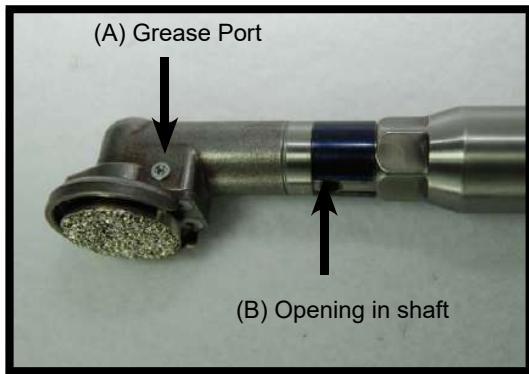

Fig. 13
ONLY NON-TOXIC (FOOD GRADE) SYNTHETIC GREASE SHOULD BE USED. Ideally utilize a high performance food grade grease with anti-corrosion and water resistance properties. The PowerFloat[®] has two grease fill ports, one located on the end of the grinding head (Fig. 13) (A), and the other located further along the shaft and situated beside the collar (Fig. 14) (D). Synthetic grease is required for smooth operation. Grease should be applied after every 2 hours of operation. To grease, rotate the shaft locking cover (Fig. 14) (C), until the shaft hole is uncovered (Fig. 13) (B). The grease gun performs similar to a plunger. Insert the tip into the grease port and push down on the grease gun to force grease into the grease port (Fig. 15). Apply grease until a small amount of new grease (clean) is seen coming out of the shaft locking hole (Fig. 15) (E). Two to four full pumps of grease into Grease Port (A) (Fig. 13) should be sufficient. The rule is to pump grease into Grease Port (A) (Fig. 13) until clean grease circulates through and exits from the shaft opening (B) (Fig. 13). Grease Port (D) (Fig. 14) only requires two pumps from the grease plunger.
Both grease ports (A) (Fig. 13) and (D) (Fig. 14) should be greased after every 5 dental procedures, or before storing the PowerFloat®. Clean grease in the shaft protects the gear mechanism during storage and operation.
1. Clean the grease ports (A) and (D) with a soft nylon brush to remove all debris in the ports. When properly cleaned, you will observe a silver colored ball (check valve) in the depression of the grease ports.
2. Rotate the black steel shaft cover to expose the shaft opening (B) (Fig. 13).
3. Place the tip of the grease plunger onto grease port (A) and slowly push down on the grease gun to depress the plunger and pump grease into the port. Continue pumping until fresh grease begins to exit from the shaft opening (B). The grease port contains a silver colored spring-loaded ball (check valve) which is designed to accept grease slowly. If the grease inside the grease gun is warm, the grease will flow more easily. Repeat this procedure with grease port (D).
4. Rotate the black steel shaft ring to cover the shaft opening (B).